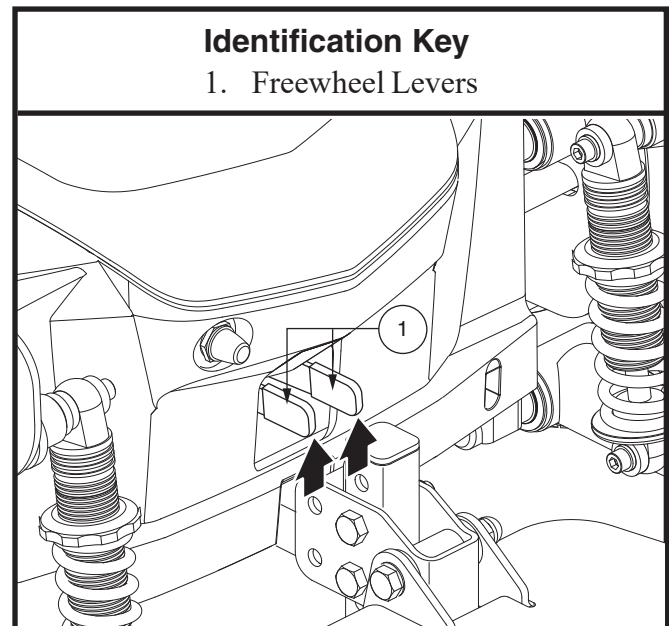

Figure 5. Freewheel Mode (Drive Disengaged)
3. Pull the two levers upward to disengage the drive motors (freewheel mode). See figure 5.